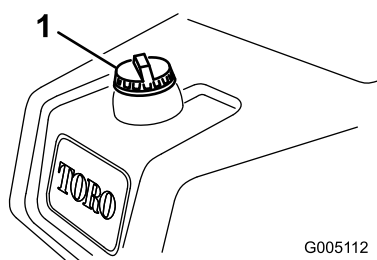

Figure 22
1. Clean around the fuel-tank cap and remove it (Figure 22).